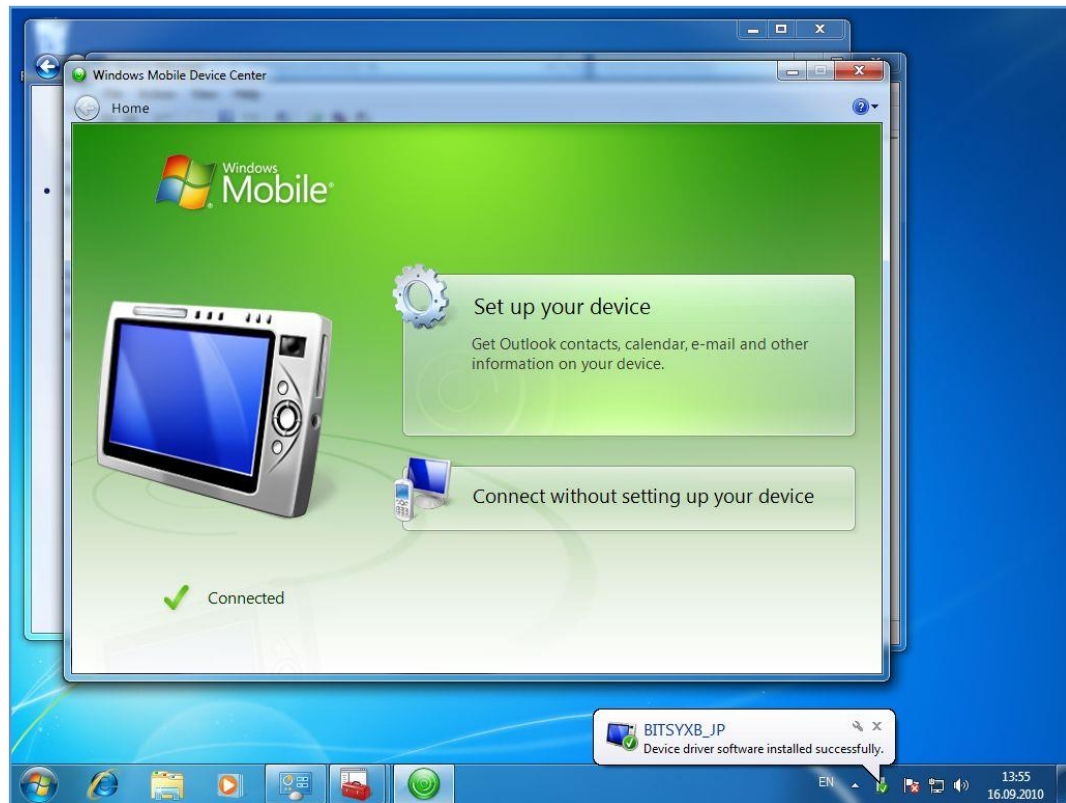

Figure A-18: Successful connection
- A successful connection is indicated by a green check mark and the word 'Connected' as shown in Figure A-18.